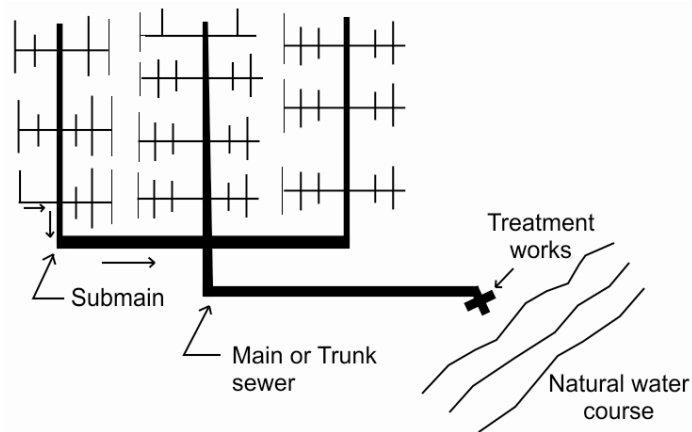

Figure 2.4 Fan pattern of collection system
- The entire sewage flows to a common point where one treatment plant is located (Figure 2.4).